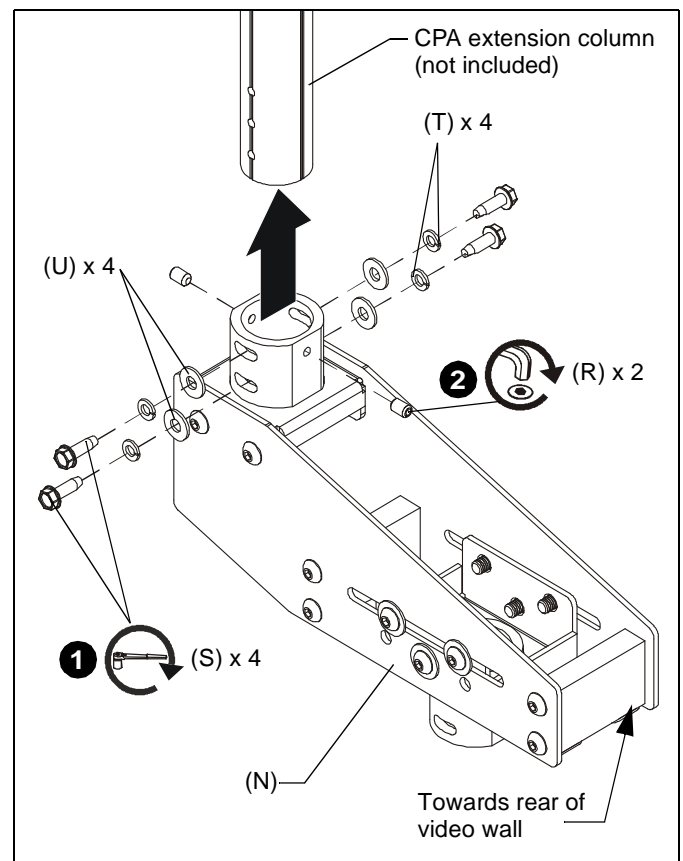

Figure 2
- Secure array offset (N) to extension column (not included) using four 5/16-18 x 1" hex head self-tapping screws (S), four 5/16" split lock washers (T) and four 5/16" flat washers (U) through holes in extension column. (See Figure 2)
- Install two 5/16" x 1/2" set screws (R) into threaded holes, tightening firmly against column. (See Figure 2)